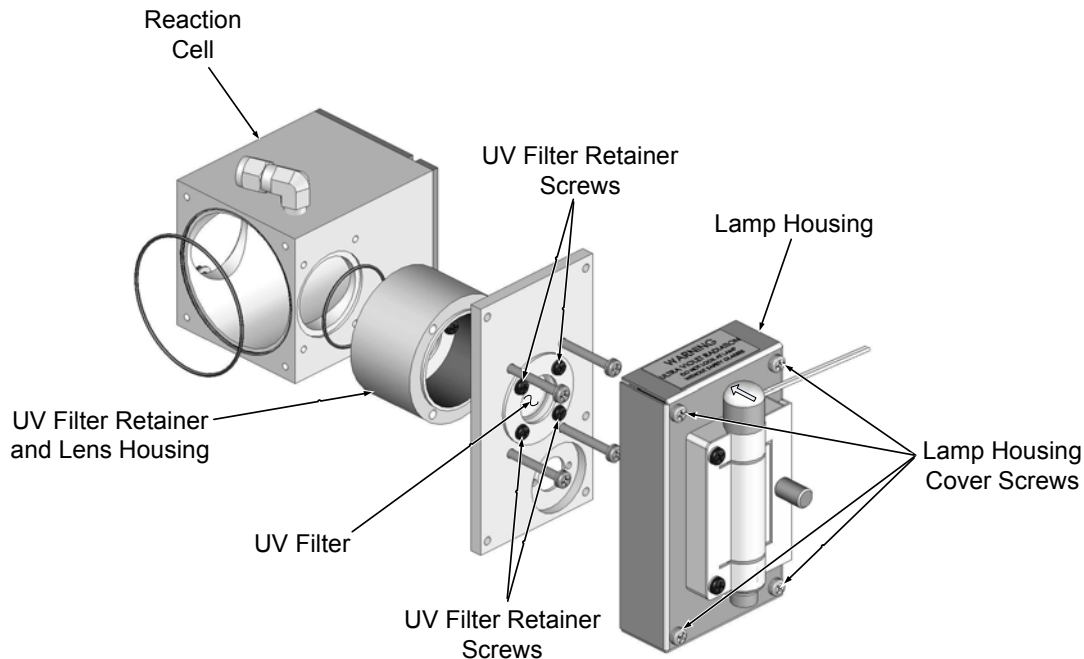

Figure 11-2: Disassembling the Shutter Assembly
DO NOT grasp the UV lamp by its cap when changing its position (see Figure 11-2).
3. Loosen, but do not remove the two UV lamp bracket screws, and the large brass thumbscrew located on the shutter housing (see Figure 11-2) so that the lamp can be moved.
**DO NOT grasp the UV lamp by its cap when changing its position (see Figure 11-2).
3. Remove 4 screws from the lamp housing cover (see Figure 11-2) and remove the cover .